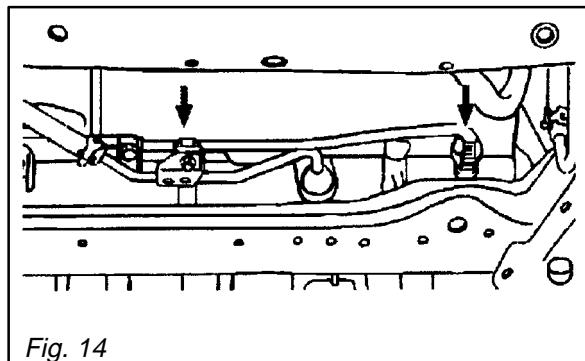

Fig. 14
- A. Reconnect the coolant temperature switch connector and wire clamp as illustrated in figure 14.